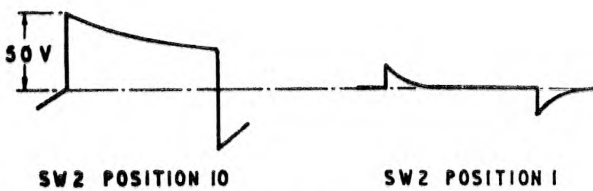

Fig. 4. Action of coarse diff. control
8. The output pulses of the flip-flop, DC restored at earth potential by the diode V7b, are applied to the differentiating circuit formed by RV3 (the FINE DIFF. CONTROL), R23, R21 and the particular condenser selected by SW2 (the COARSE DIFF. CONTROL). The waveforms shown in fig. 4 and 5 illustrate the action of the differentiating controls; only the positive excursion of the waveform need be considered, since the negative excursion is eliminated by the inverter amplifier V9.